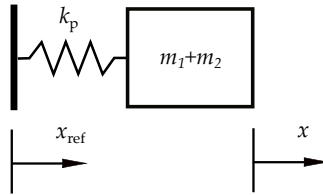

Figure 3: Equivalent system with **displacement actuator** x_{ref} .
1c. Consider the equivalent mechanical system of the closed loop system of Question 1b. It is shown in Figure 3 that the body mass $m_1 + m_2$ is connected to a **displacement actuator** using a spring that has stiffness k_p . Also with intermediate steps, please derive the **open loop transfer function** x/x_{ref}
- The open loop transfer function in Figure 3